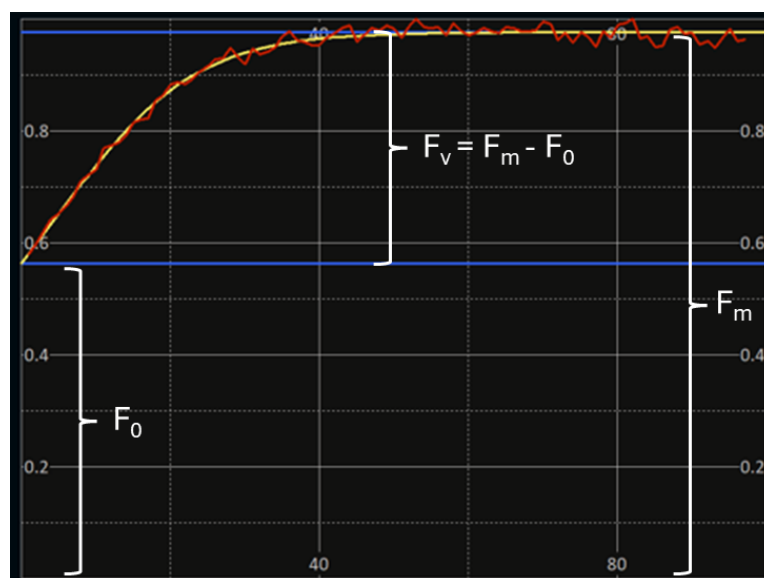

Figure 8: A typical data trace from FastBallast showing the key measurement parameters F_0 , F_m and F_v .
FastBallast employs the Single Turnover (ST) variable fluorescence method. This involves applying 100 microsecond pulses from the excitation LEDs to saturate Photosystem II (PSII) photochemistry. The ST pulse generates an increase in the emission of chlorophyll-a fluorescence from PSII, as illustrated in Figure 8. Extrapolating the fluorescence signal back to the start of the ST pulse provides the F_0 fluorescence level. The maximum fluorescence level is termed F_m . The difference between F_0 and F_m is termed variable fluorescence, F_v . Variable fluorescence is only generated by living phytoplankton cells within the sample.